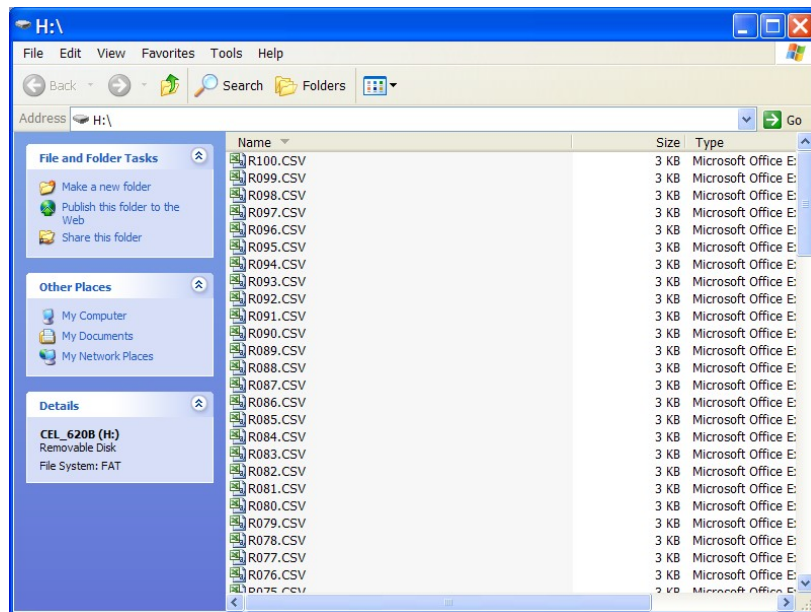

Figure 16 Measurement Data Files
L. EXTRACTING DATA (Refer to Figure 16)